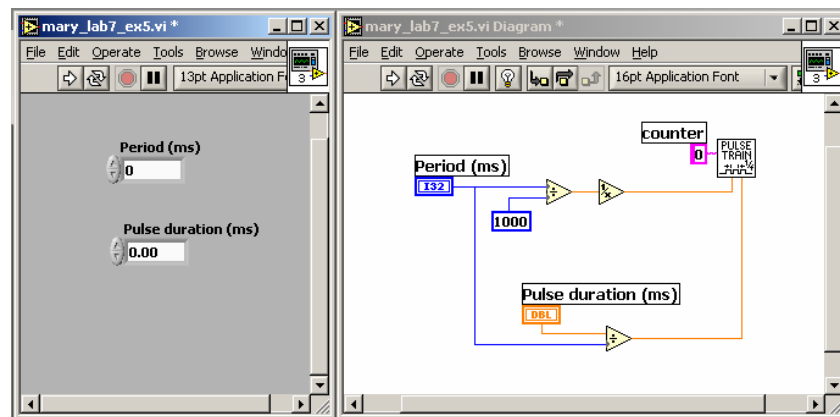

Figure 8. yourname_lab7_ex5.vi: VI that generates a digital pulse train.
1. Build the VI shown in Figure 8. The **Generate Pulse Train VI** can be used to configure the specified counter (**Counter 0**) to generate a continuous pulse train on the counter's OUT pin (See step 2 below).